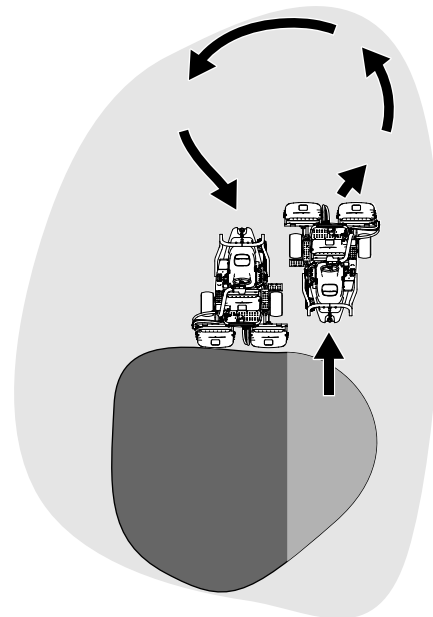

Figure 37
6. To cut down on operating time and to ease the lineup for the next pass, momentarily turn the machine in the opposite direction, then turn it in the direction of the uncut portion. This movement is a tear-shaped turn (Figure 37), which quickly lines the machine up for your next pass.